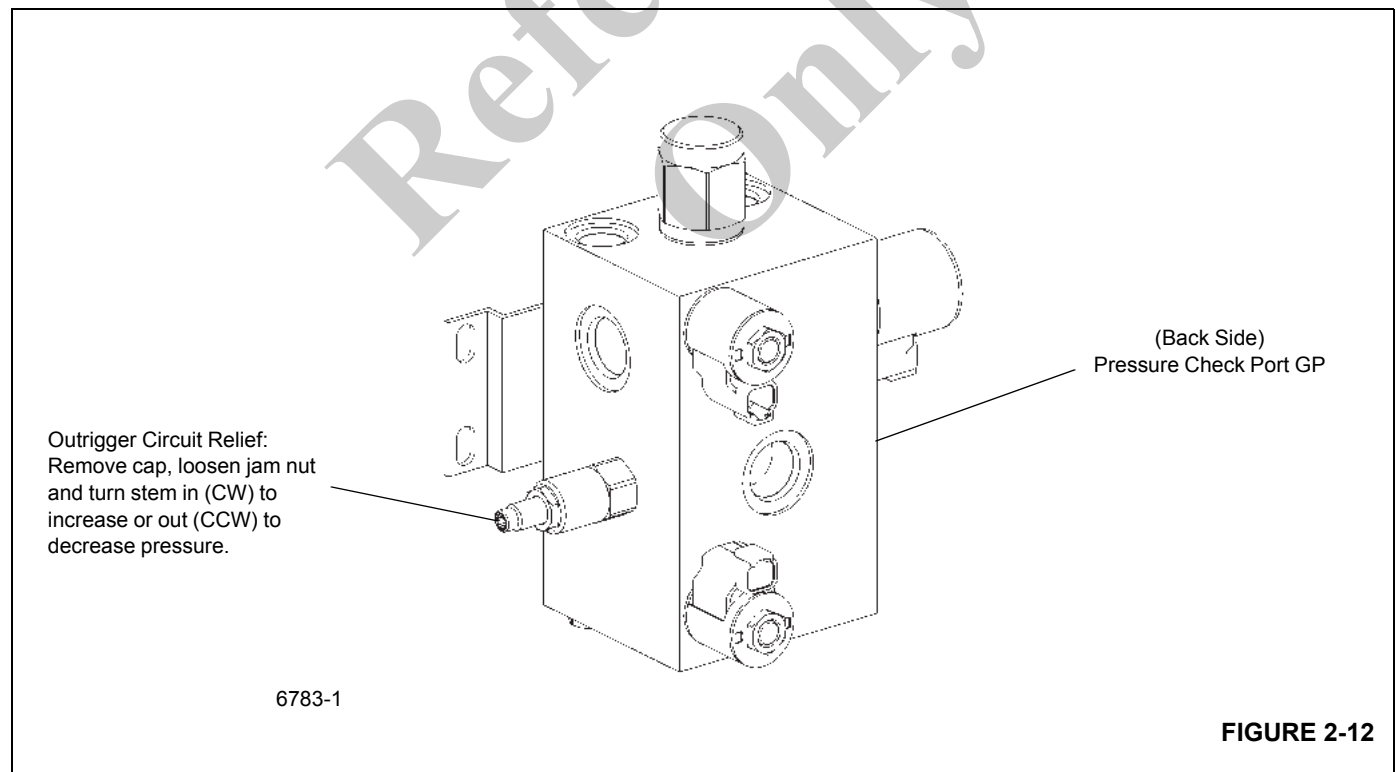

FIGURE 2-12
1. Remove cap and install pressure gauge on outrigger selector valve pressure check port labeled GP (see Figure 2-12).